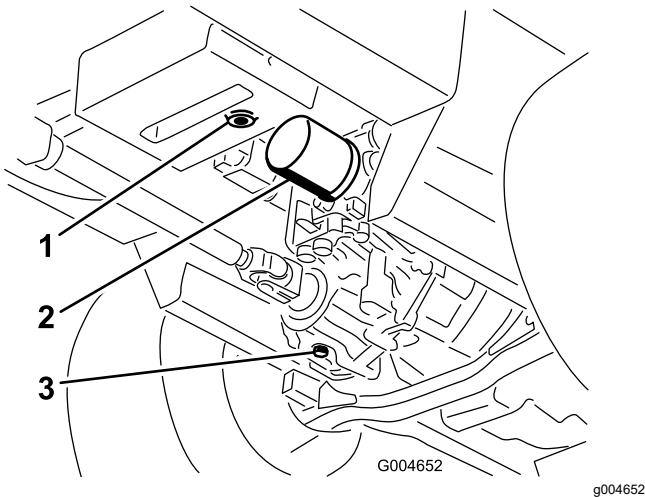

Figure 92
3. Place a large pan under the hydraulic reservoir and transmission case and remove the plugs, draining all of the hydraulic fluid (Figure 92).
4. Clean the area around the hydraulic fluid filter and remove the filter (Figure 92).